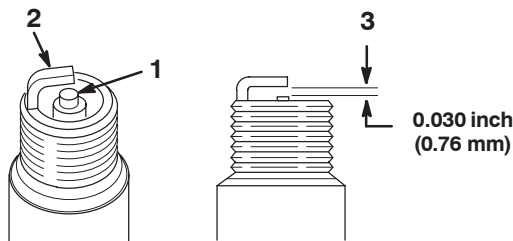

Figure 54
1. Look at the center of the spark plug (Fig. 54).
2. Check the gap between the center and side electrodes (Fig. 54).
3. Bend the side electrode (Fig. 54) if the gap is not correct.